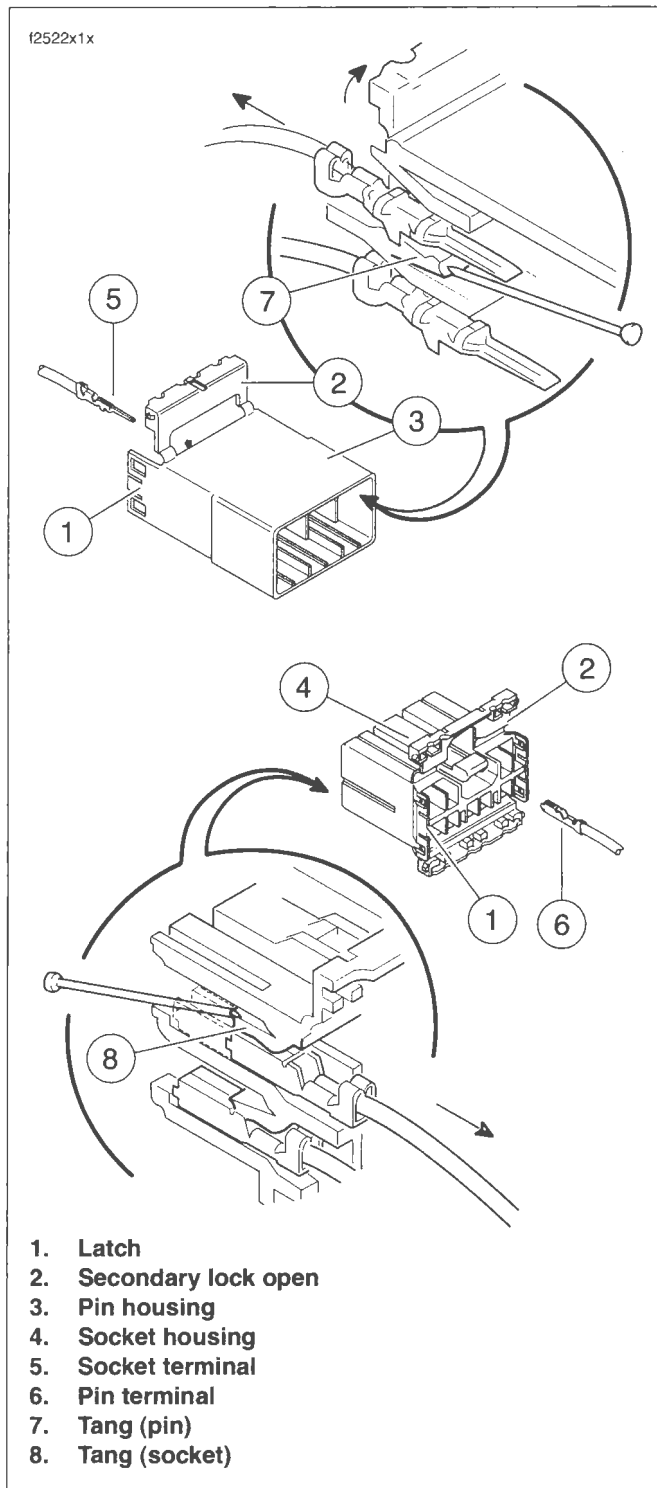

Figure B-4. Socket and Pin Housings
1. See Figure B-4. Bend back the latch (1) to free one end of secondary lock (2) then repeat on the opposite end. Hinge the secondary lock outward.